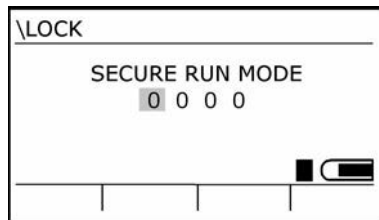

Figure 7–2: Locked Run display
- **Currently running a study** ~ You had started a study before enabling **Secure Run Mode**. As soon as you enable it, the Locked Run display appears (Figure 7–2). From then on, every other function is locked out. The only thing you can do is provide the security code to take *NoisePro* out of Secure Run Mode.